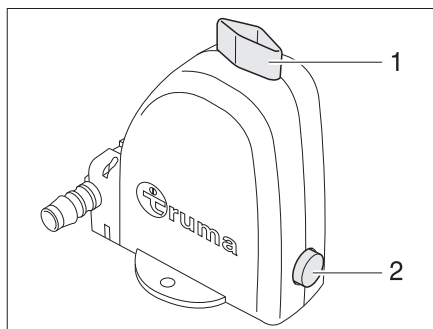

Fig. 67 Safety/drainage valve of the boiler
The boiler is equipped with a safety/drainage valve (Fig. 67). The safety/drainage valve prevents water in the boiler from freezing, when there is frost and the heater is not switched on. The safety/drain valve is installed near the heater or in the floor storage compartments under the table.
- Close the safety/drainage valve. To do so turn the knob (Fig. 67,1) cross-wise to the safety/drainage valve and press in the push button (Fig. 67,2).
- Open the safety/drainage valve. To do so turn the knob (Fig. 67,1) parallel to the safety/drainage valve. The push button (Fig. 67,2) trips. The boiler is drained to the outside by the safety/drainage valve.